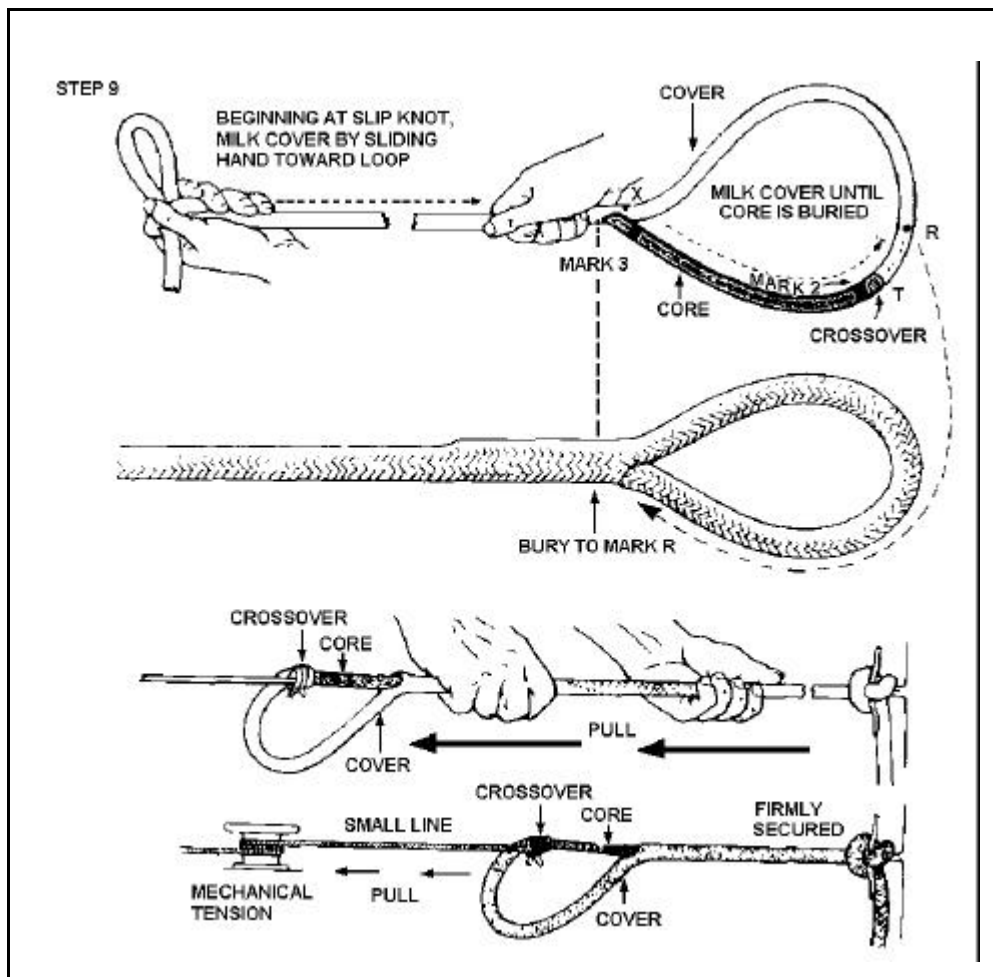

Figure 12-60. Burying the Exposed Core
- STEP 9 -- Burying the exposed core.** Hold rope at slip knot and with other hand milk cover toward splice, gently at first, then more firmly (see Figure 12-60, page 12-52). Cover will slide over Mark 3, Mark 2, the crossover, and point T and point R. (It may be necessary to occasionally smooth out eye during milking to prevent tapered tail from catching in throat of splice.) If bunching occurs at crossover preventing full burying, smooth cover from point T to point X. Grasp crossover at point T with one hand and then firmly smooth cover slack (female side of eye) with other hand towards throat point X. Repeat as necessary until bunching disappears. Continue milking until all cover slack between knot and throat of eye has been removed.